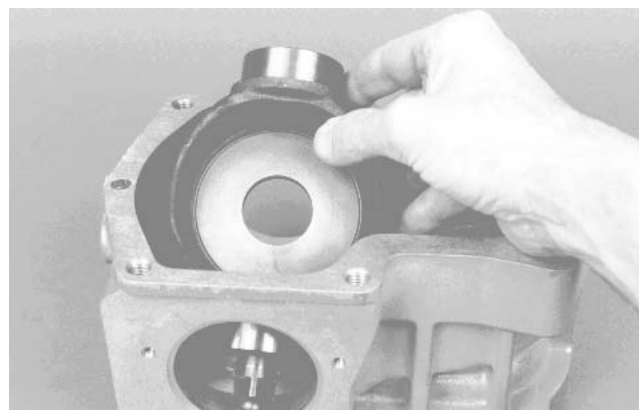

Figure 55
2. Install swashplate into housing. Make sure swashplate control shaft is located on correct side of housing (note marks made during disassembly) (Fig. 55).